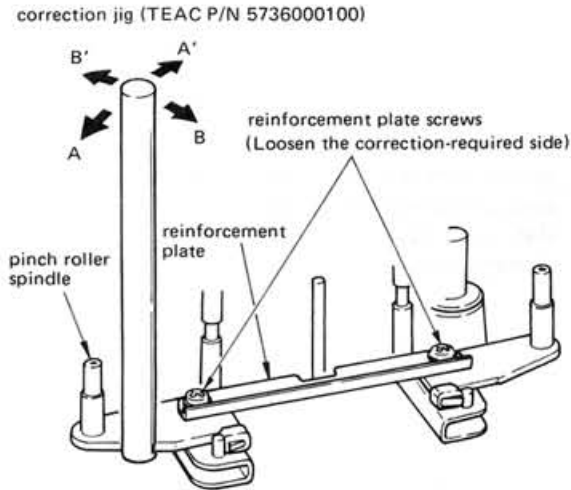

Fig. 2-18 Pinch roller/capstan alignment
3. If not parallel, loosen the reinforcement plate screw near the correction-required side (Refer to Fig. 2-18), then correct tilt of pinch roller spindle using correction jig. Adjustment can be done by tilting correction jig in direction of arrow A or A'.
5. If needed, adjust by tilting correction jig in direction of arrow B or B' in Fig. 2-18.
4. If a change is found, re-adjust accurately tilt of pinch roller spindle by method illustrated in Fig. 2-18.